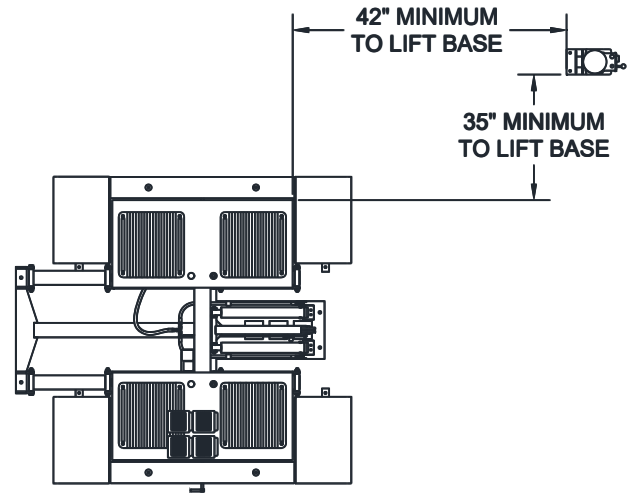

Fig. 5 Power Unit Location
6. Place Power Unit Stand as shown in Fig. 5 for surface mount or flush mount applications. Operator should be in a position to notice any misalignment of lifting pads or vehicle during operation. Challenger Lifts does not recommend placing the Power Unit in a different location or orientation and doing so would be the responsibility of the installer and/or end user.
24. For **Surface Mount only**, there are (8) 5/8" diameter holes in the ramp forms for use with 1/2" anchor bolts. Use the holes in the ramp forms as a template and drill holes. Insert anchor bolts into holes but do not tighten yet.
25. For **Surface Mount only with Cover Acc**, use the nine 20" hose covers and one corner cover to protect the hose in a desired path using Fig. 5. Drill Ø1/4" holes using the hose covers as a template and secure the covers to the floor with the provided 1/4" drive anchors.
27. For **Flush Mount only**, there are (8) 5/8" diameter holes in the front platforms and (2) 5/8" holes in the lock rod support bracket. Use the platforms as a template and drill holes and insert anchor bolts. Locate lock rod support bracket near lock rod handle and align with pivot block near center of lift base. Ensure bracket does not interfere with bottom of lift structure when lowered before drilling holes. Drill holes and insert anchor bolts using bracket as a template. Do not tighten yet.